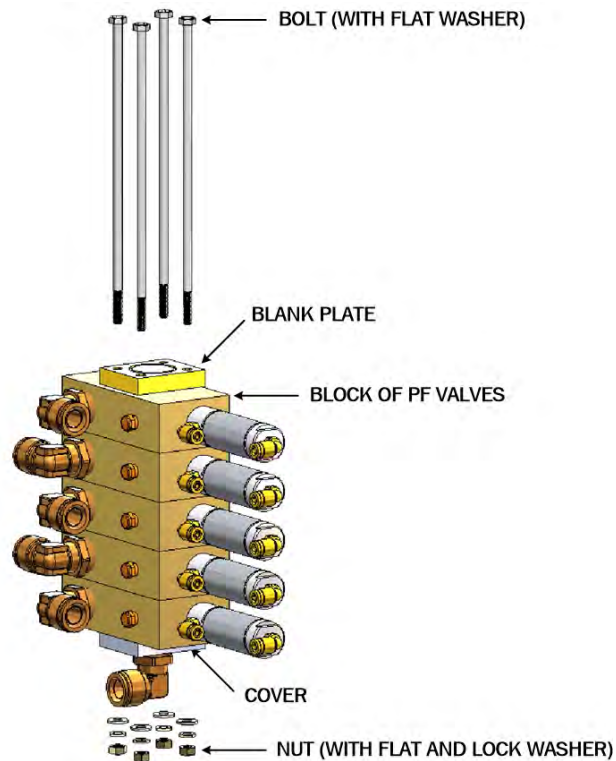

Figure 98. PF Valve Block Disassembly
- B. Using two 7-16-in wrenches, remove PF valve block, blank plate, and cover retaining bolts. Hold nut (with washers), remove bolt (with washer). See Figure 98.
- H. Install four [4] bolts (one [1] flat washer on each) thru PF valve stack and four [4] nuts (with one [1] flat and one [1] lock washer on threads of each bolt). See Figure 98.